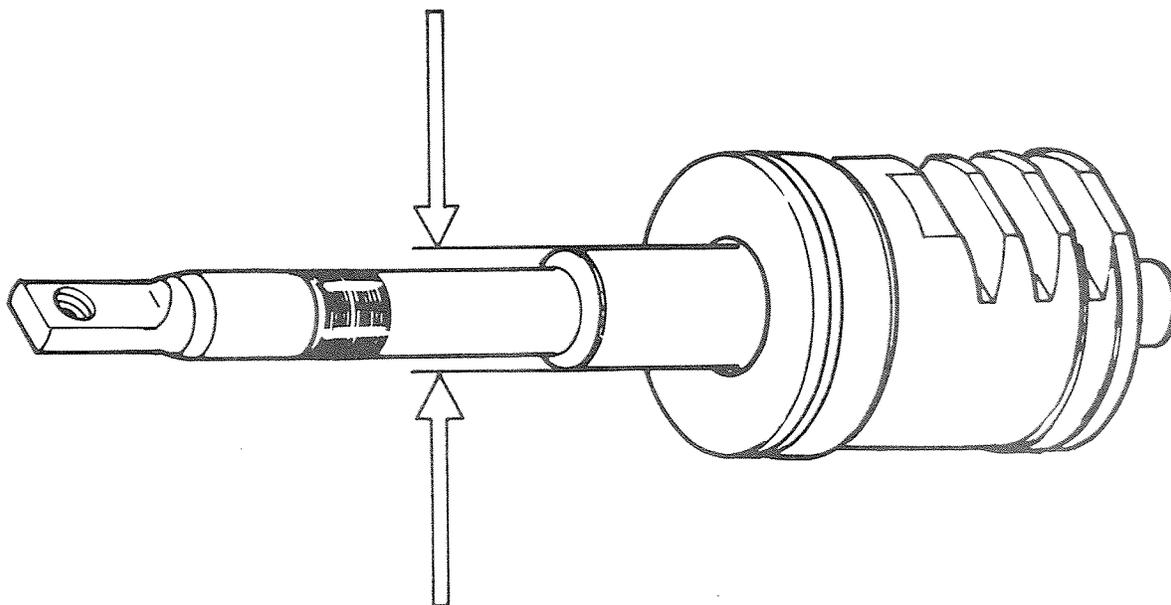

Figure 38
2. Measure the worm shaft outer diameter, Figure 38. If the diameter is less than 1.121 in. (28.475 mm) replace the shaft.